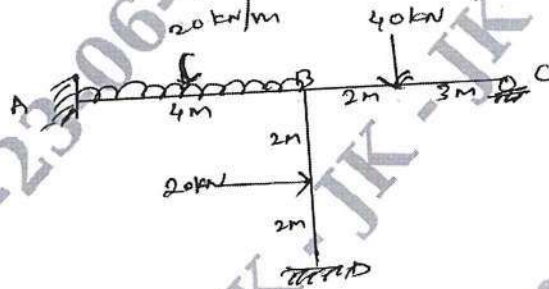

Fig.Q.8
**Q.8** Analyze the portal frame shown in Fig.Q.8 by slope deflection method, draw BMD and elastic curve. **20 L4 CO4**